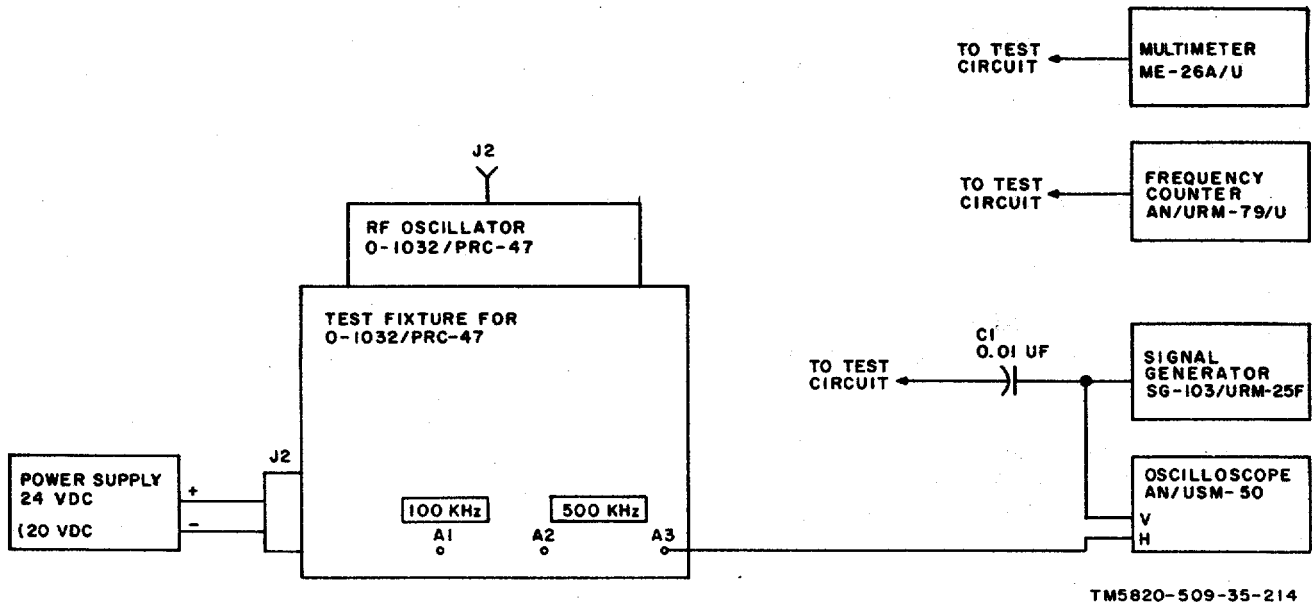

Figure 6-15. RF Oscillator O-1032/PRC-47 (A8A6), Performance Tests, Initial Test Equipment Connections.
(1) Connect the test instruments to the test fixture as shown in figure 6-15. (The connections for the remaining test equipment are detailed in the appropriate procedural steps below.)
(2) Before placing the O-1032/PRC-47 into the test fixture, remove the module cover. Install module in test fixture.
(3) Place the power on-off switch of the power supply to on and then place the +20 V ON-OFF switch to ON.
(4) Adjust the output voltage of the power supply to 20.0 ± 0.2 volts dc.
(1) On the test fixture, place the +20V ON-OFF switch to OFF, and remove the O-1032/PRC-47 from the test fixture.
(2) Disconnect the miniature coaxial cable from the junction of Q4-R23-R24 as in step d (2) unless it has already been removed, and then replace the module in the test fixture.
(3) Connect the test equipment to the test fixture as shown in figure 6-15 and connect the open end of capacitor C1 to the terminal in the module from which the coaxial cable was just removed.
(4) Return the +20V ON-OFF switch on the test fixture to ON; then set the signal generator output frequency to 3.0 MHz. Adjust the output level of the signal generator at the base of the locked oscillator (Q4) to the value measured in step c (3).